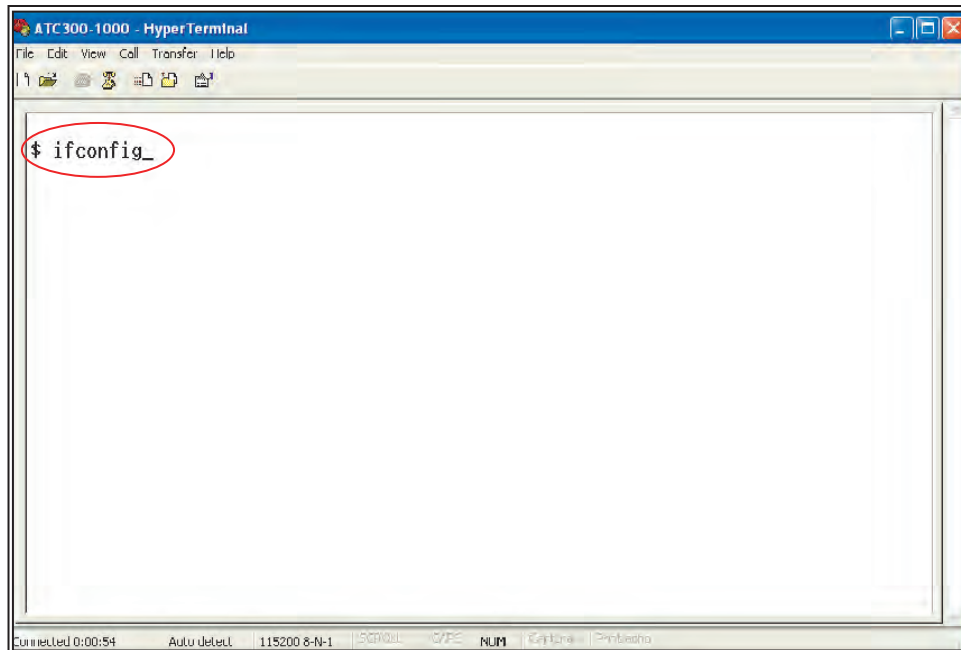

Figure 5-7. Configure IP Address.
11. Type **ifconfig** as shown in Figure 5-7 and press **Enter** key.